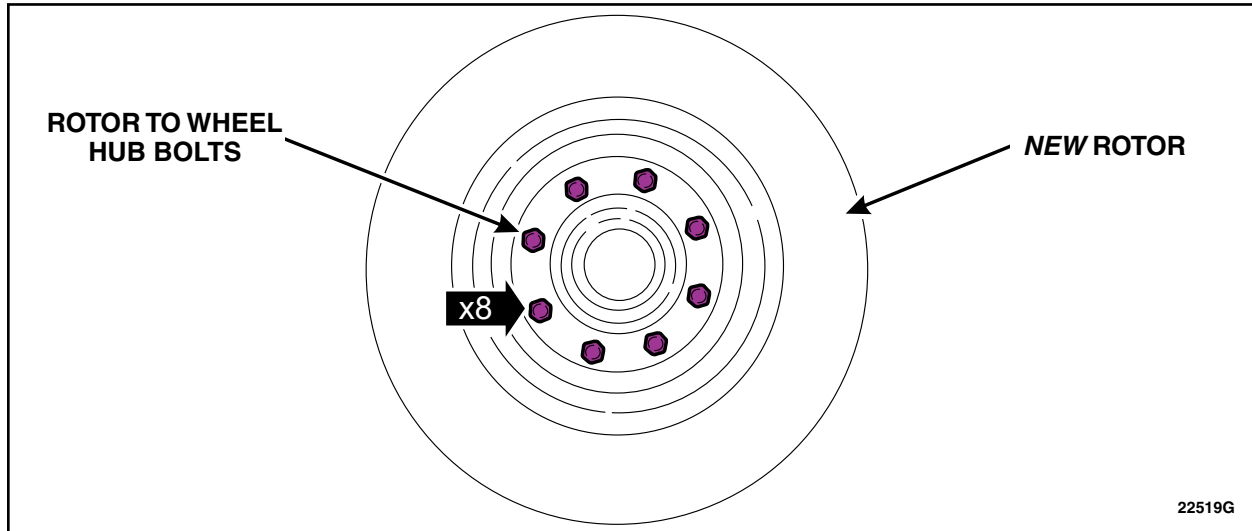

FIGURE 15
15. Position the *new* rotor(s) on the *new* rear wheel hub(s) and install the *new* bolts. See Figure 15.